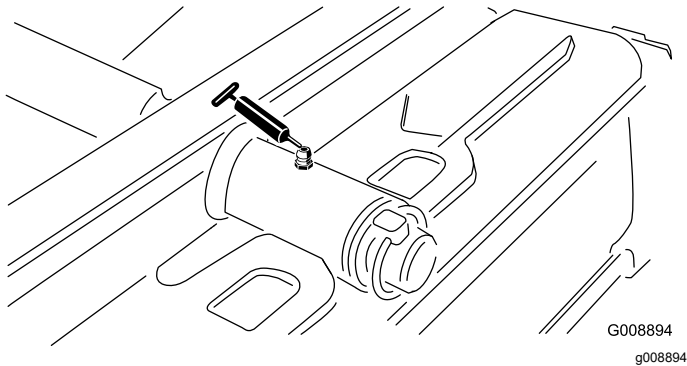

Figure 45
- Rear cutting unit pivot (Figure 45)